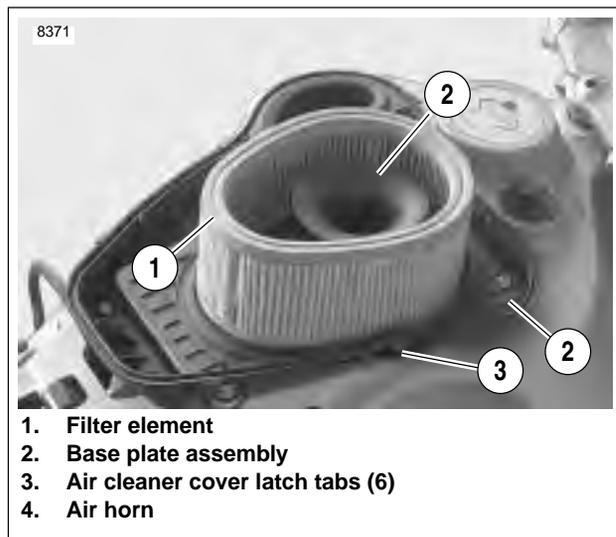

Figure 1-40. Installed Air Cleaner Filter Element
6. See Figure 1-40. Remove the filter element (1) from base plate (2). Inspect and replace if necessary.
See Figure 1-40. Cover the air horn so nothing can drop into the motor.
1. See Figure 1-40. Place filter element (1) on base plate (2).